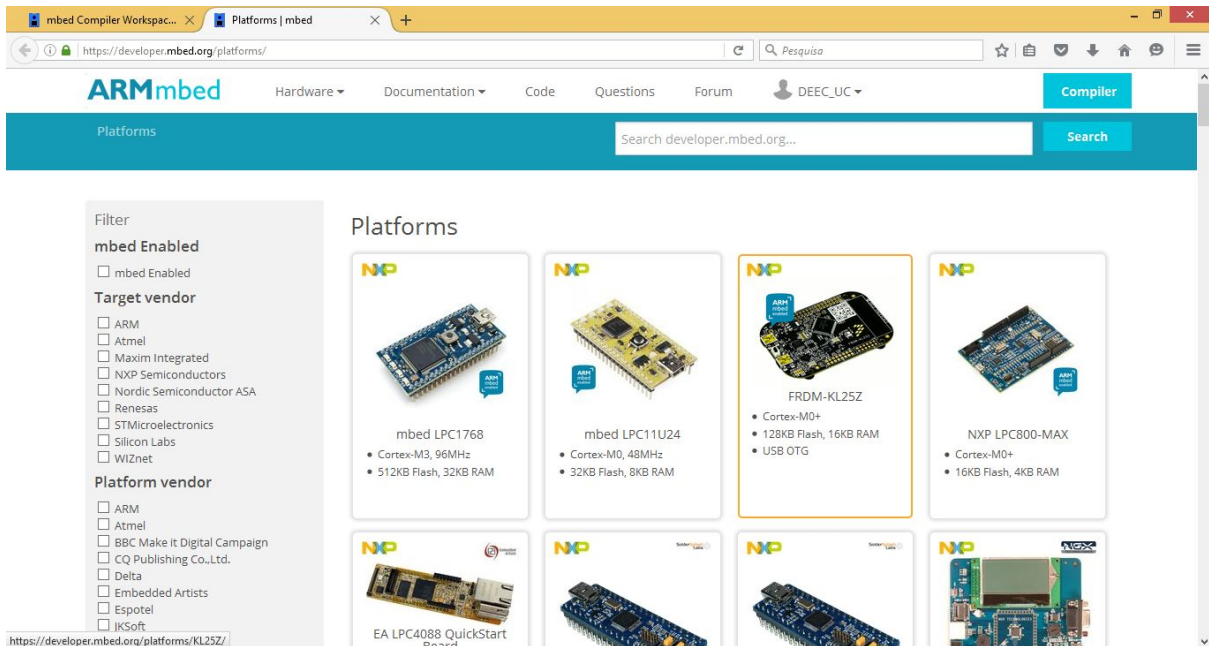

Figure 8. Webpage for selection of the platform to add (FRDM-KL25Z).
- Select FRDM-KL25Z (see figure 8). A webpage with FRDM-KL25Z platform will appear.